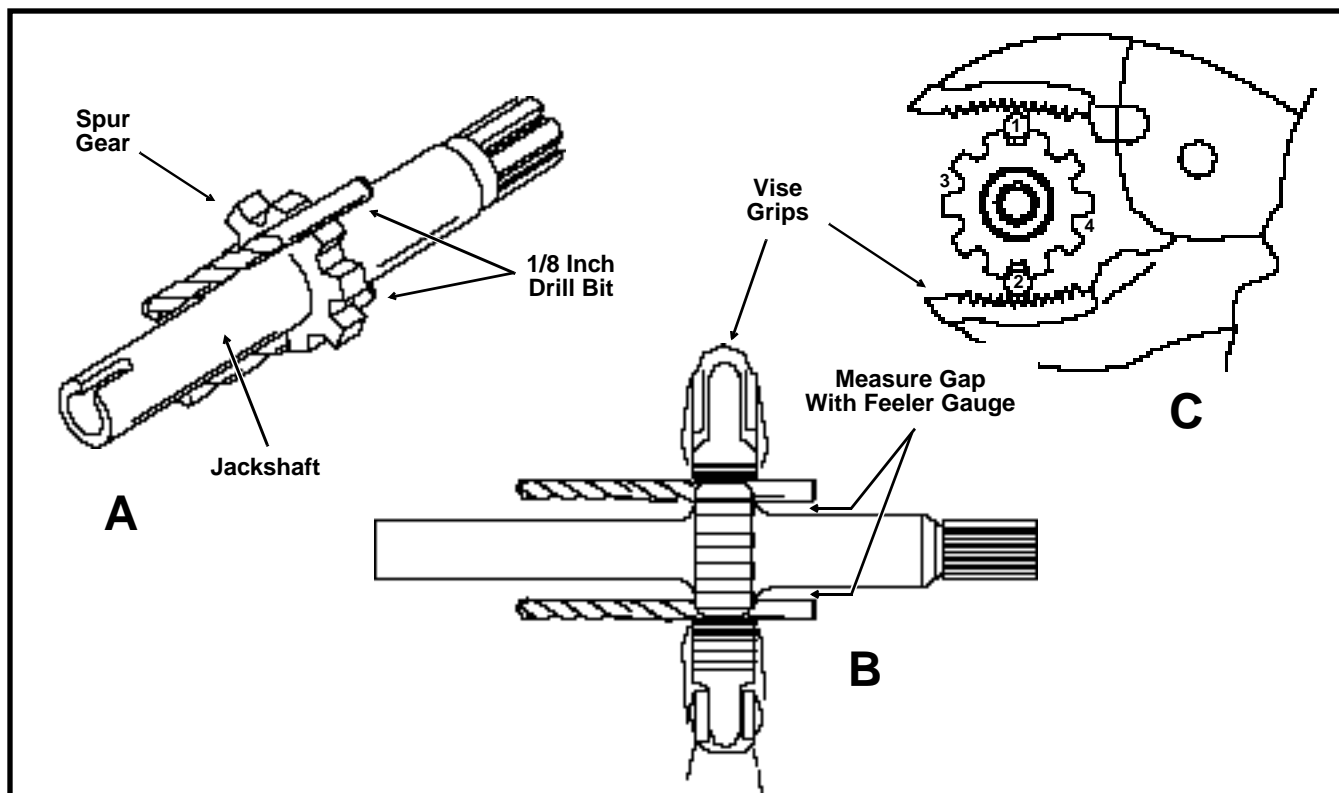

Figure 2. Check Jackshaft Runout - Method 2
1. See A in Figure 2. Place a 1/8 inch diameter drill bit in the root between two teeth on the spur gear. Place a second 1/8 inch diameter drill bit in the root 180° from the first location. Using a vise grips, lock the bits in place.
2. Use a feeler gauge to measure the gap between each bit shank and the jackshaft seal surface. See B in Figure 2. Record both clearances. Release the vise grips and remove the drill bits.
3. Place a drill bit in the root approximately 90° from the location where the second measurement was performed. See C in Figure 2. Place the second drill bit in the root 180° from this location. Lock the bits in place with the vise grips.